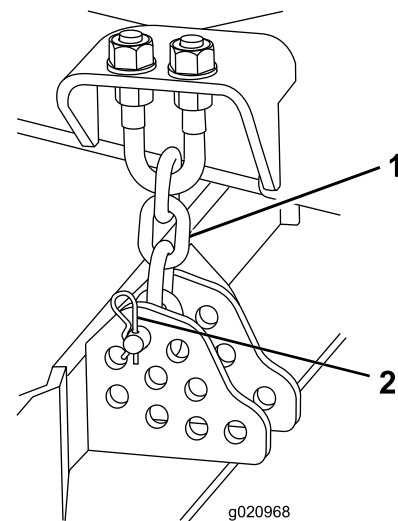

Figure 20
10. Remove the hairpin cotter and clevis pin securing the height-of-cut chains to the rear of the cutting unit (Figure 20).